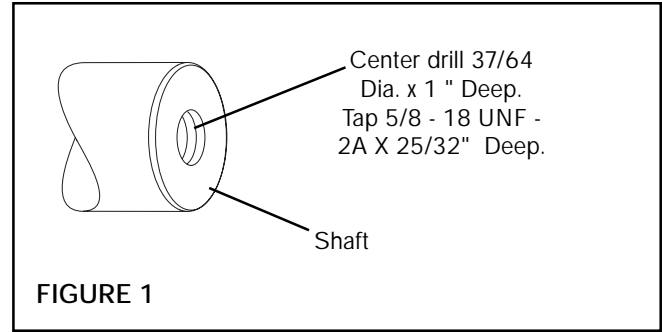

FIGURE 1
1. Drill a 37/64" diameter hole 1" deep and tap 5/8-18 UNF - 2A X 25/32" deep into the end of the Shaft (See Figure 1).